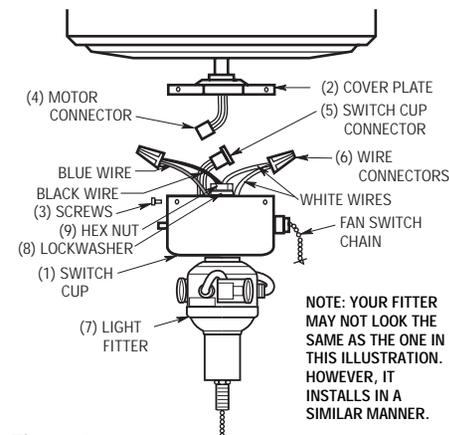

Figure 2
6. Insert the black and white wires from the light fitter(7) through the center hole in the switch cup (Figure 2) and thread the switch cup onto the light fitter. Hold wires taut while installing switch cup to prevent the wires from twisting. Securely tighten the fitter to the switch cup.
7. Insert the black and white wires through the lockwasher(7) and hex nut(8) supplied. Firmly tighten the hex nut to secure the light kit fitter to the switch cup.
8. Connect the white wire from the switch cup to the white wire of the light fitter (Figure 2). Connect the blue wire from the switch cup to the black wire of the light fitter. Use listed wire connectors (previously removed in step 5) to make connections (Figures 2 and 3).
9. Carefully tuck all wires and splices into the switch cup(1). (Figure 2.)
10. Connect the motor connector(4) to the switch cup connector(5).
11. Position the cup/light fitter(1)(7) on the cover plate(2) and install the three screws(3) that were previously removed in step 2 and tighten securely.